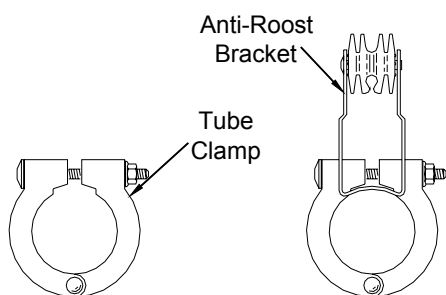
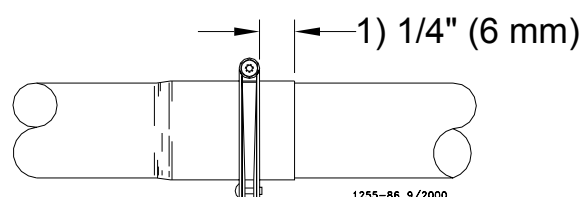

Figure 27. Tube Clamp and Anti-Roost Bracket
Figure 28. Tube Joint Connection
3. Place a Tube Clamp Assembly or Clamp/Anti-Roost Bracket at each joint. **Figure 27** shows the standard clamp and Clamp/Anti-Roost Bracket. Make sure each tube fits as far as possible into the belled end of the next tube. the outlet holes **must point down**. Install tube clamps as shown in **Figure 28**.
- make sure clamp is located, as shown in **Figure 28**.